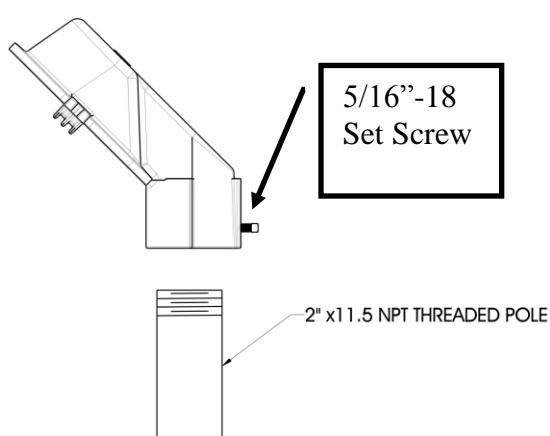
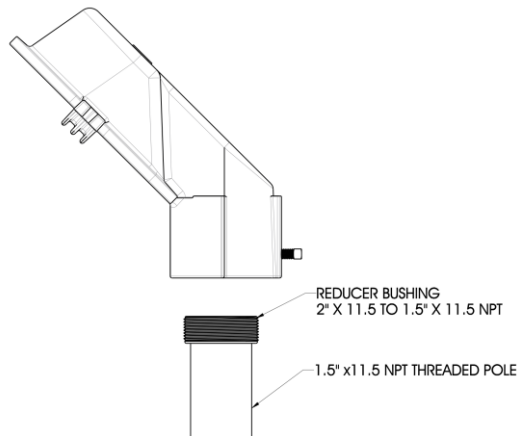

Figure 1: 2" NPT THREADED POLE
Figure 2: 1 1/2" NPT REDUCER BUSHING
2. Back off 5/16"-18 set screw provided such that it will not interfere with the attachment operation. Firmly thread the Stanchion Mount to the 2" NPT threaded pole. Properly engage the threads and turn the Stanchion Mount by hand until tight. Continue tightening using a wrench until the proper orientation is achieved. Torque the 5/16"-18 screw to 10 ft-lbs [14 N-m]. If attaching to a 1 1/2" NPT threaded pole attach a reducing bushing to the pole first. **See Figure 1 and Figure 2**